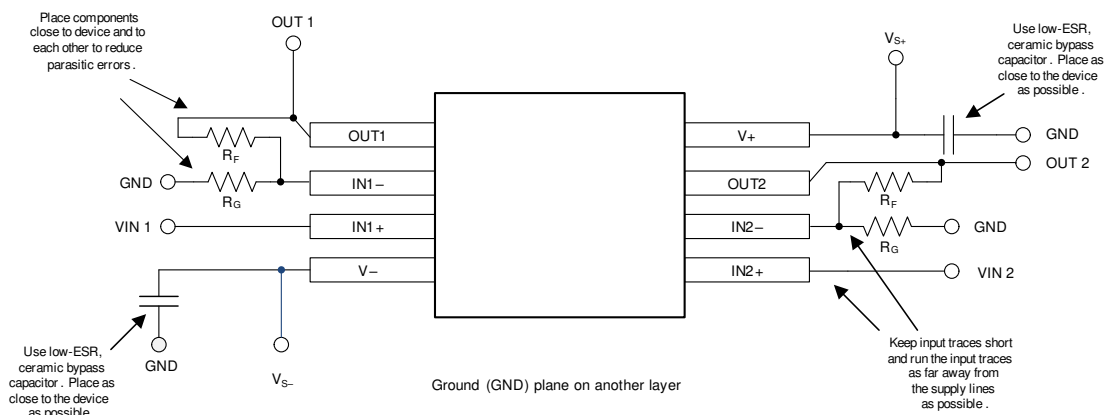

图 45. Layout Example
- Place the external components as close to the device as possible, as shown in 图 45. Keeping R_F and R_G close to the inverting input minimizes parasitic capacitance.